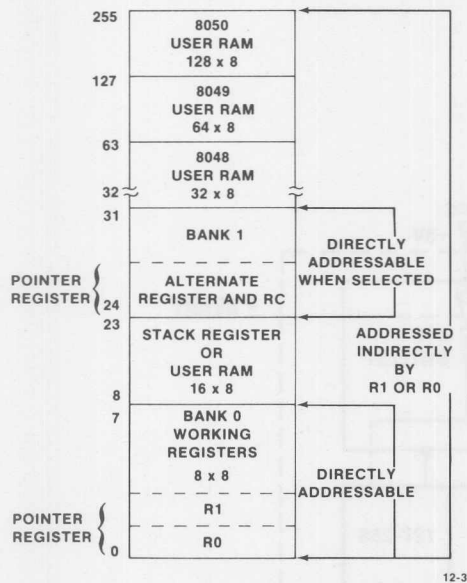

FIGURE 3. 48-Series Resident RAM Data Memory Map
The resident RAM data memory is arranged as 64 (INS8035/8048), 128 (INS8039/8049) or 256 (INS8040/8050) bytes. RAM addressing is implemented indirectly via either of two 8-bit RAM pointer registers R0 and R1. These pointer registers are essentially the first two locations in the RAM (see Figure 3), addresses 000 and 001. RAM addressing may also be performed directly by 11 direct register instructions. The pointer register area of the RAM array is made up of eight working registers that occupy either the first bank (0), locations (0 to 7), or the second bank (1), locations 24-31. The second bank of working registers is selected by using the Register Bank Switch instruction (SEL RB). If this bank is not used for working registers, it can be used as user RAM.